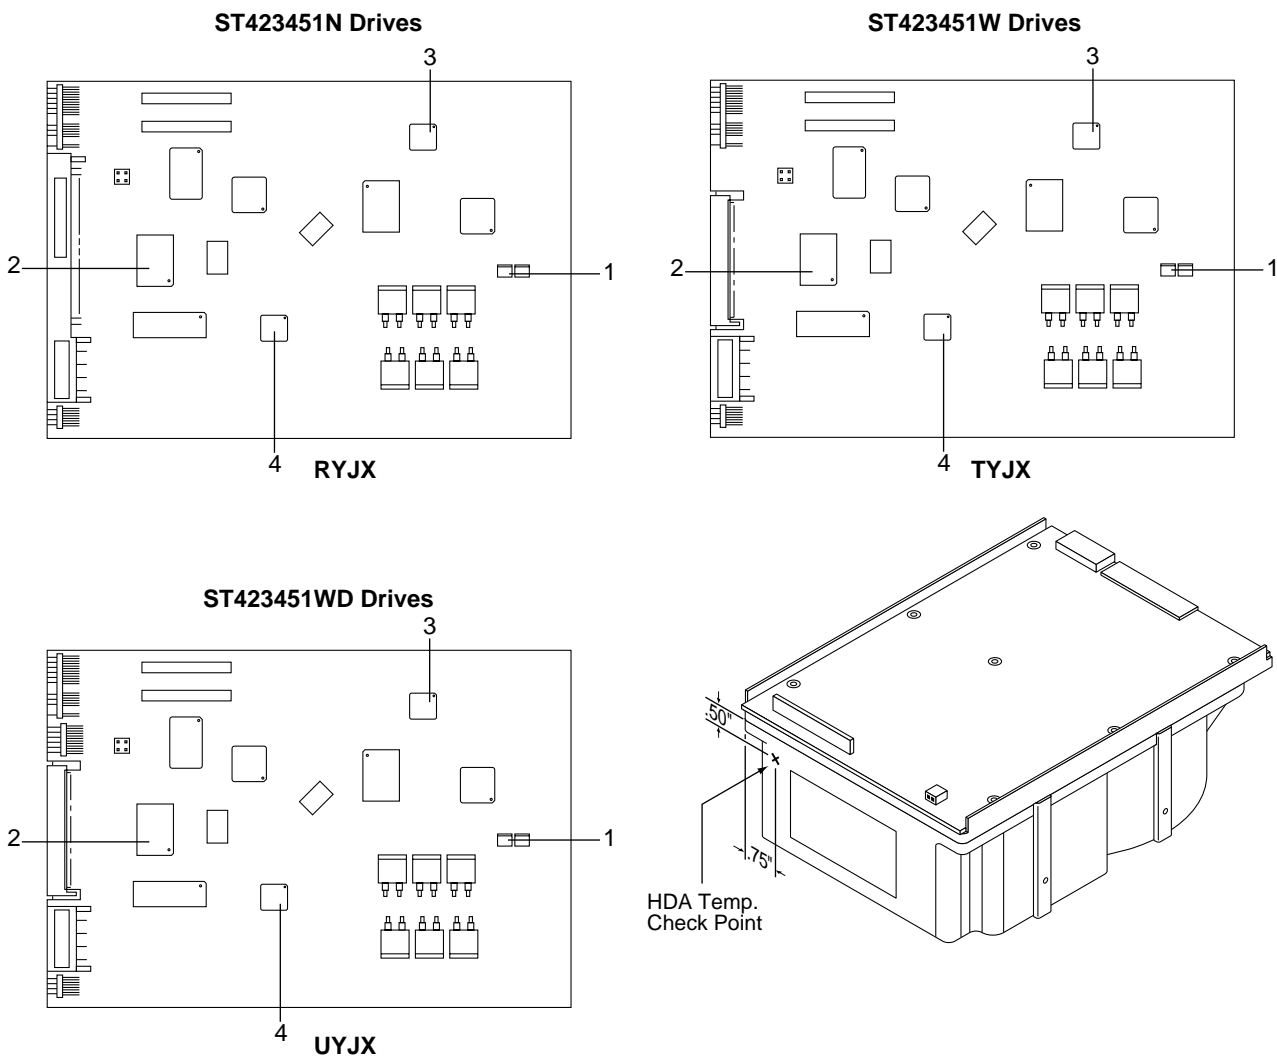

Figure 4. Location of PCB components listed in Table 3
- [3] Measure HDA temperature at point labeled “HDA Temp. Checkpoint” on Figure 4.